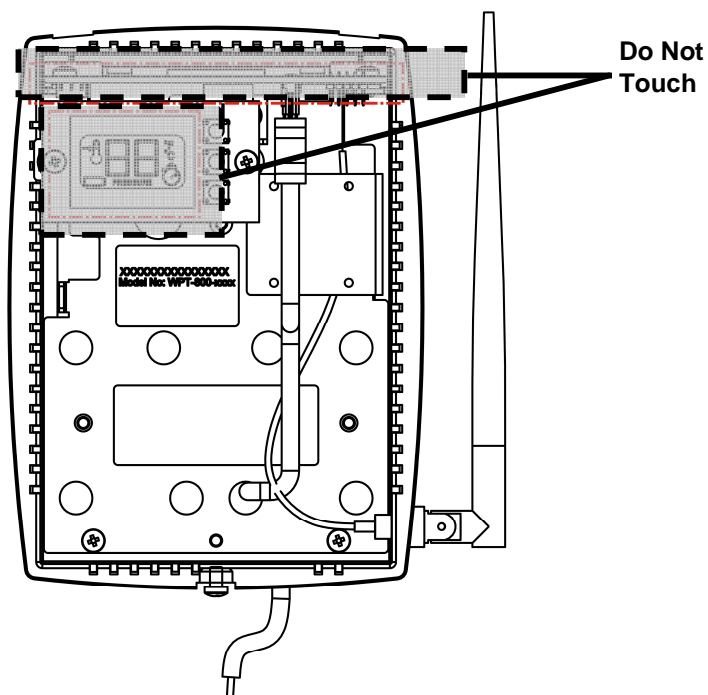

Figure 3. Handling the RWAL
- The RWAL contains ESD sensitive circuit cards and components, shown in Figure 3.